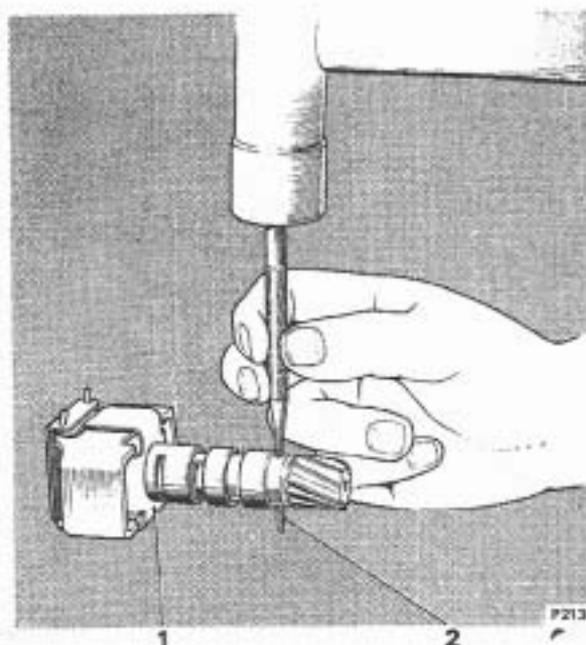

FIG. T182 REMOVING GOVERNOR DRIVEN GEAR RETAINING PIN
1. Drive out the gear retaining pin using a hammer and drift (see Fig. T182).